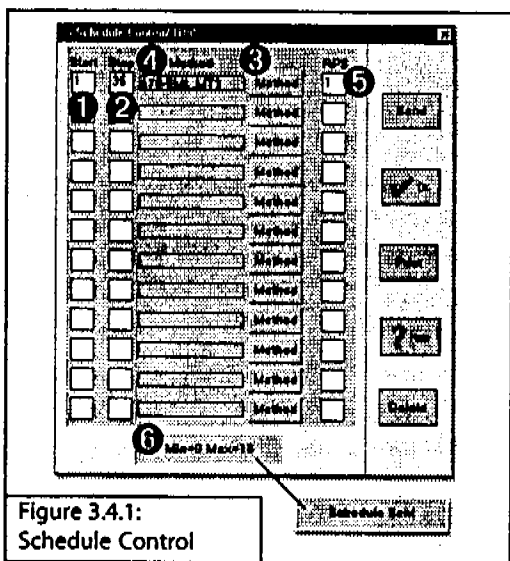

Figure 3.4.1:
To access the Schedule Control screen (Figure 3.4.1), select Instrument > Edit Schedule from the Control Screen.
Enter the vial position number of the first sample in the Start field (❶, Figure 3.4.1) and the vial position number of the last sample in the Stop field (❷) to be run according to the specified method. The default sample start and stop positions are both 0, the number assigned to the front-panel sample on the concentrator unit.